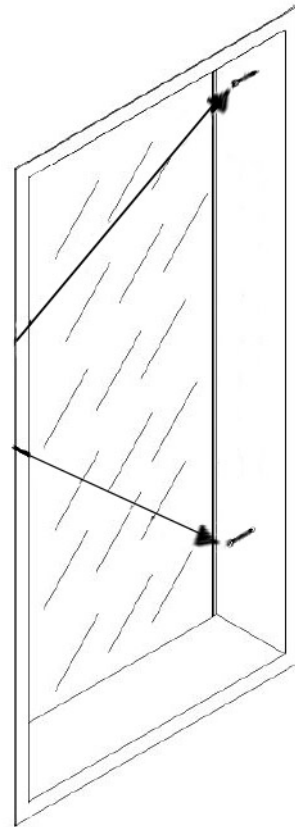

Fig. 4
4. For drywall/wood stud applications insert wood screws into pre-drilled mounting holes located on the interior sides of the cabinet. (Pro-tip do not overtighten with this will wreck the cabinet) use a level to test that the cabinet is plumb. (Figure 4)